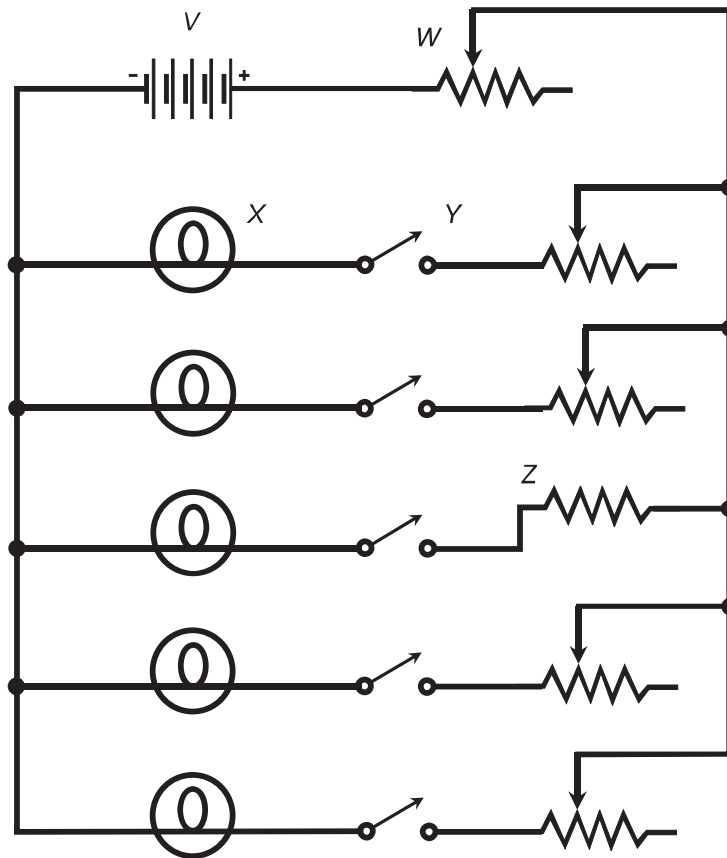

Fig. Exam-4. Illustration for Final Exam Questions 34 through 39.
34. In Fig. Exam-4, the component labeled V is
35. In Fig. Exam-4, the component labeled W is
36. In Fig. Exam-4, the component labeled X is
37. In Fig. Exam-4, the component labeled Y is
38. In Fig. Exam-4, the component labeled Z is
39. In Fig. Exam-4, the condition, setting, or value of component Y affects the condition of